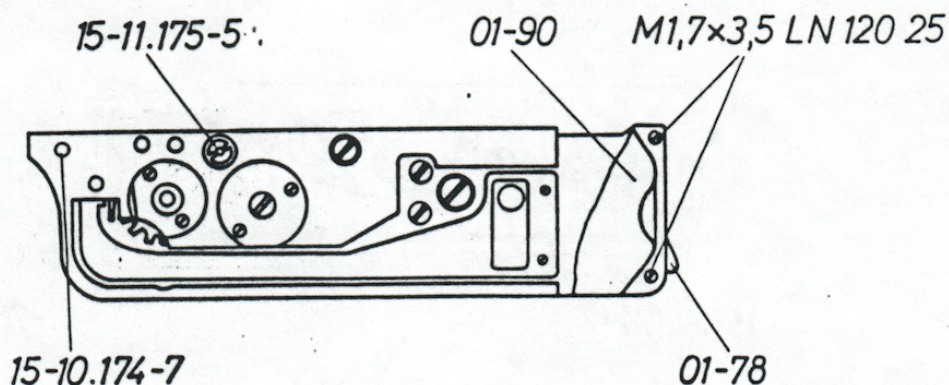

Fig. 34.2
2.23 If the end position of the first shutter blind is incorrect, unscrew the two screws M 1.7 x 3.5 LN 120 25 and the screw 15-10.174-7 (see fig. 34.2) with the 2.5 mm dia. screw driver. Remove the cover plate 01-90